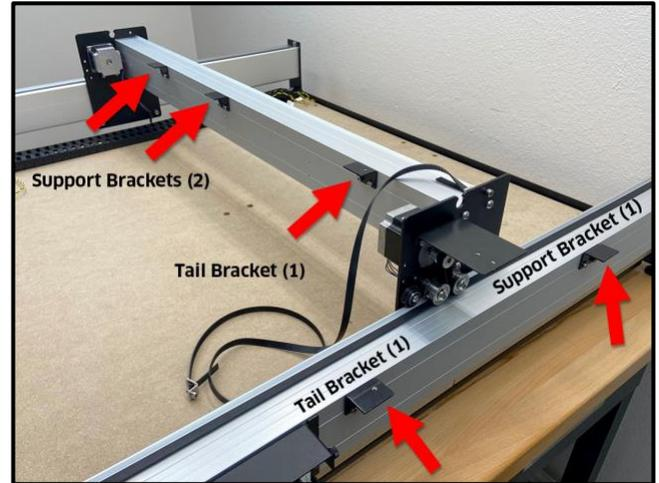

Figure 19
1. Install two (2) middle support brackets (no PEM nut) and one (1) tail bracket (with PEM nut) to the back side of the X-rail. See **Fig. 19** (image from rear).
- b. Use a 3mm hex key and two (2) M4×6mm SCHS to secure each support bracket to the rear of the X-rail.
2. Install one (1) middle support bracket (no PEM nut) and one (1) tail bracket (with PEM nut) to the outside of the Y1-rail. See **Fig. 19** (image from rear).
- b. Use a 3mm hex key and two (2) M4×6mm SCHS to secure each support bracket to the outside of the Y1-rail.